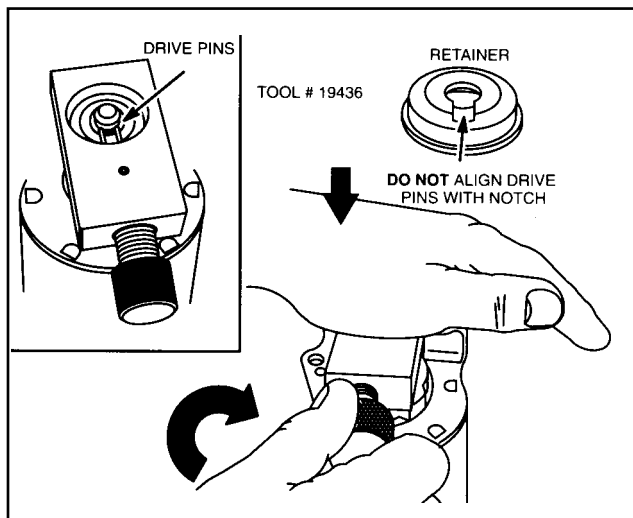

Fig. 8 - Removing C-Ring
1. Place counterbore side of Briggs & Stratton P/N 19436 (Fig. 8) over retainer and align drive pins with open end of C-Ring.